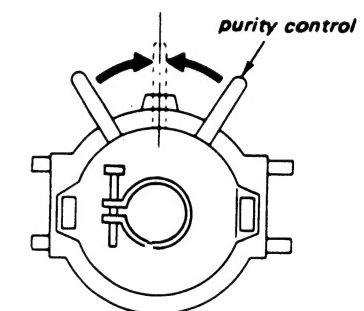
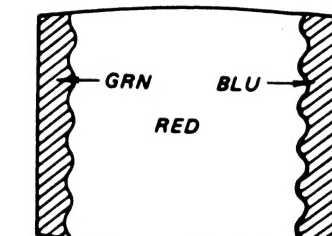

Fig. 3-1
Fig. 3-2
- 3 Loosen the deflection yoke mounting screw, and set the purity control to the center as shown in Figure 3-1.
- 4 Set BKG VR (R) to maximum and set (B) and (G) to minimum.
- 5 Move the deflection yoke back, and adjust the purity control so that (R) is in the center and (G) and (B) are at the sides, evenly. (Figure 3-2.)
- 7 Substitute (G), then (B) for (R) in step 4 and check landing.
- 8 Rotate (R), (G) and (B) once each and check landing.